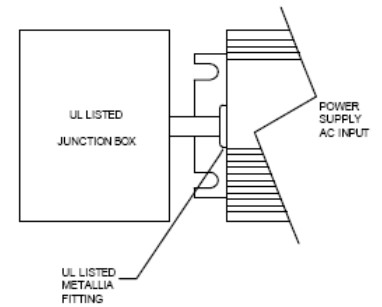

Fig1
- Conduit fittings shall be used; UL listed threaded on to power supply bracket, Liquid tight, metallic, provided for connection to the AC circuit (Fig 1).
- The use of a UL listed junction box suitable for use in locations is Required (Fig 1).